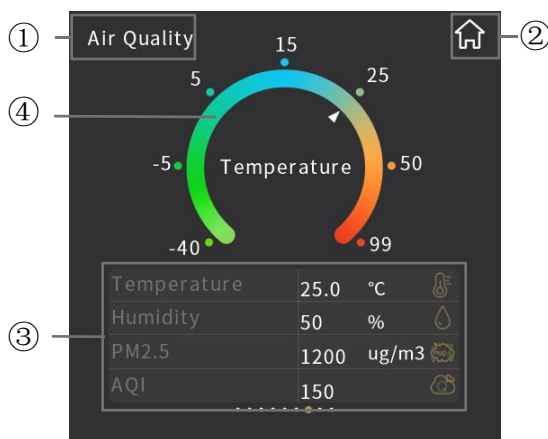
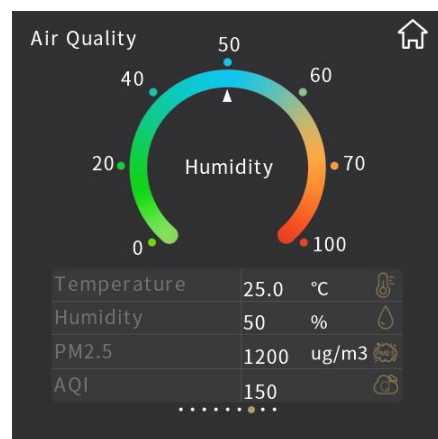
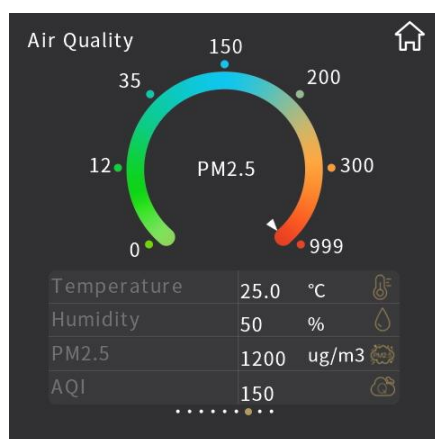
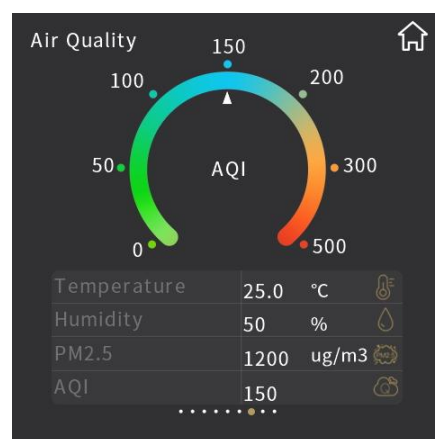

Fig.2.9.1
Fig.2.9.2
Fig.2.9.3
Fig.2.9.4
④ This ring strip is used for displaying the air quality parameter value;
Touch one of the items in the display list at the bottom of the interface, the pointer on the ring strip④ will point to the corresponding scale, such as Fig.2.9.1 above is the display effect of temperature, Fig.2.9.2 is the display effect of humidity, Fig.2.9.3 is the display effect of CO2 and Fig.2.9.4 is the display effect of AQI.